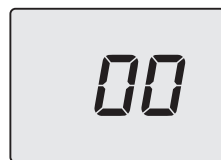

Figure 5.28
- Scroll through the various parameters by pressing the keys 14 (back) or 16 (forward), until **P57**, which alternates with the parameter value, appears on the LCD display (Figure 5.28).